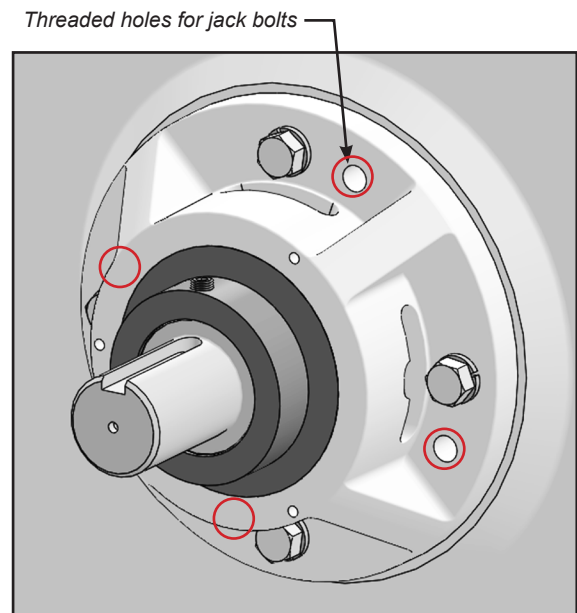

FIGURE 22
9. If bearing cartridge will not release from shaft, thread two or four 3/8"-16 x 2 1/2" jack bolts into opposing threaded cartridge holes to contact endplate (Figure 22 & 23).